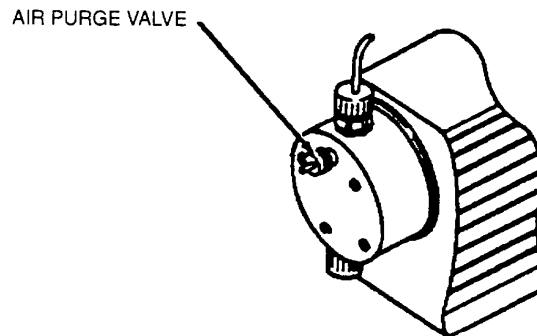

Figure 4-3. Chemical Metering Pump Priming.
- c. Connect piece of hose to air purge valve (Figure 4-3) to collect any air or liquid that may appear.